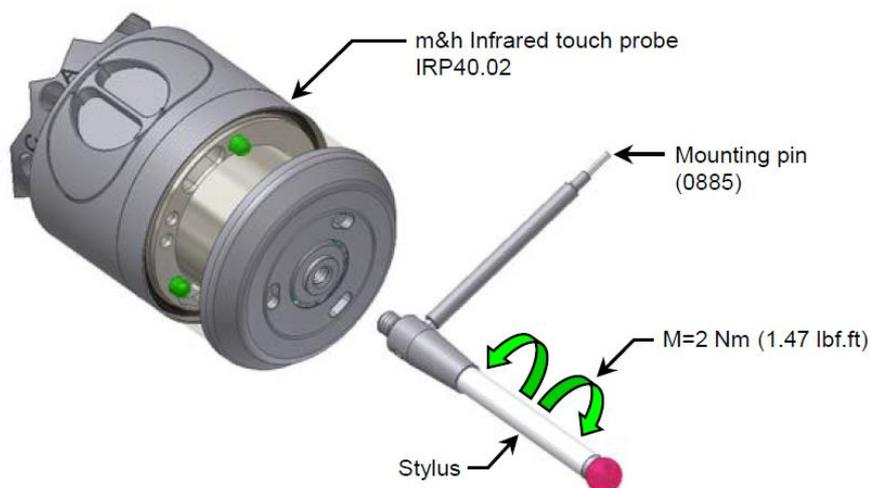

Figure 6 Stylus change
2. Carefully screw the new stylus into the touch probe (Figure 6).